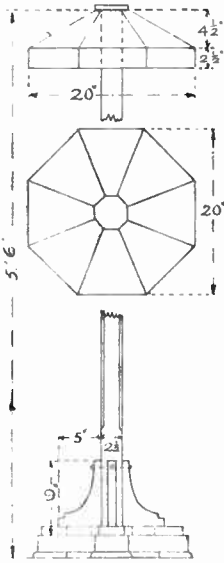
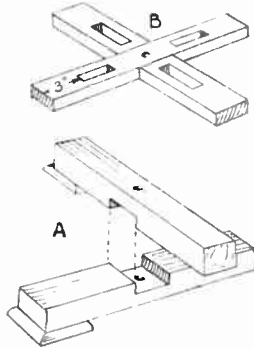

Fig. 2 — Section of standard and base
Fig. 3—Construction of base parts
Work can be commenced upon the base, the general outline and dimensions of which are given in Fig. 2. There are two sturdy crosspieces or rails measuring 18ins. long by 4ins. by 2ins. in cross section, and after they have been cut off squarely and the centres marked across, the halvings are drawn in 1in. each side of the centre line and dropped down on the thickness of the stuff to half the depth to make a sound halving joint, as seen in detail (A), Fig. 3.
To form the feet below the cross rails, cut out four blocks 5ins. by 4ins. by $\frac{1}{2}$ in. or $\frac{3}{4}$ in. thick. Round them off on three edges and then glue and screw them to the extremities of the cross rails. Next make the upper members of the cross feet, the two rails (B), as seen in Fig. 3. These are each 17ins. long by 3ins. wide by 1in. thick, and on each, two mortises are to be marked out, as the detail shows, 3ins. in from the ends of the rails and the mortises are 3ins. long and 1in. wide. Cut them through with a coarse fretsaw, keeping just inside the drawn lines so as to insure a tight fit when the brackets are inserted.
By scoring is meant those lines between each panel is cut in very lightly with the tip of a knife, thus enabling a bend to be made exactly along a line. The interior of each panel is cut away as well as the smaller front panel which hangs down, as seen in the front view Fig. 2. On the 8th panel in Fig. 6 is seen a marginal strip, this, when the whole is angled up, is glued to the edge of the 1st panel. Gummed tape cut to length required and put at the back of joins and creases help to strengthen the shade a good deal.